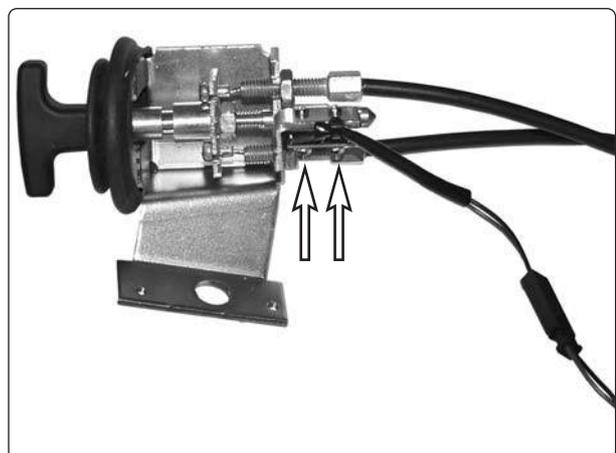

Fig. 18. The brake release sensor is attached by two screws.
6. Remove the brake release sensor, it is attached by two screws, see fig. 18.